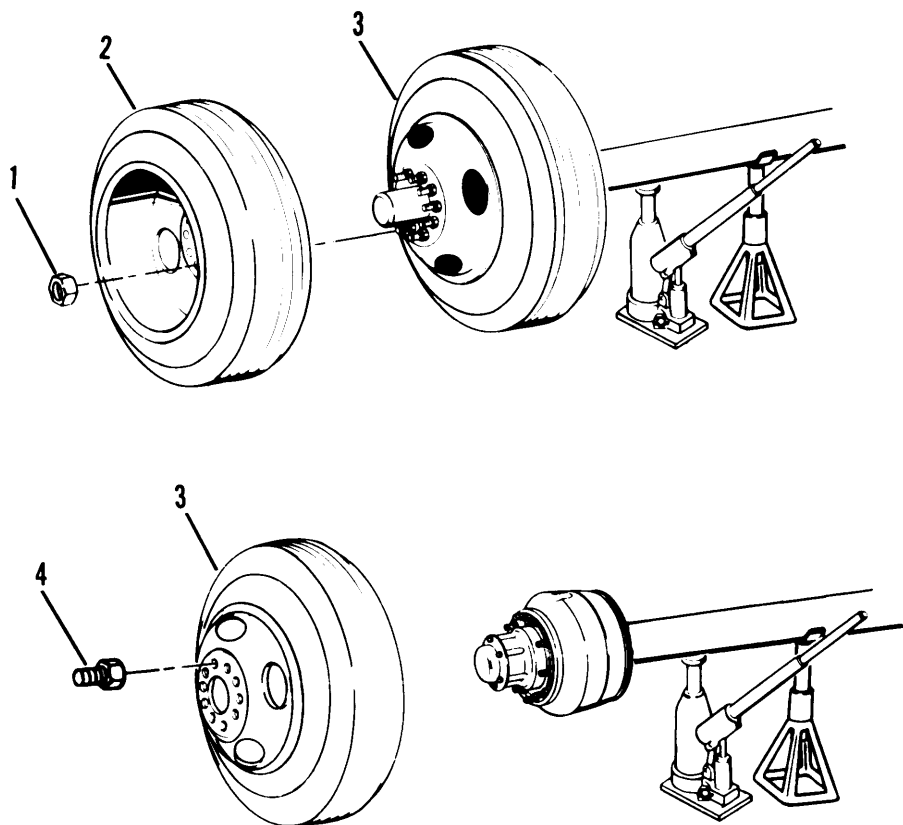

Figure 4-42. Tire and Wheel Removal
- (1) Set chock blocks opposite the set of wheels being removed.
- (2) Loosen, but do not remove ten lug nuts (1, fig. 4-42).
- (3) Jack up axle until wheels (2 and 3) are clear of the ground.
- (1) Install inner wheel (3, fig. 4-42) and ten lugs (4).